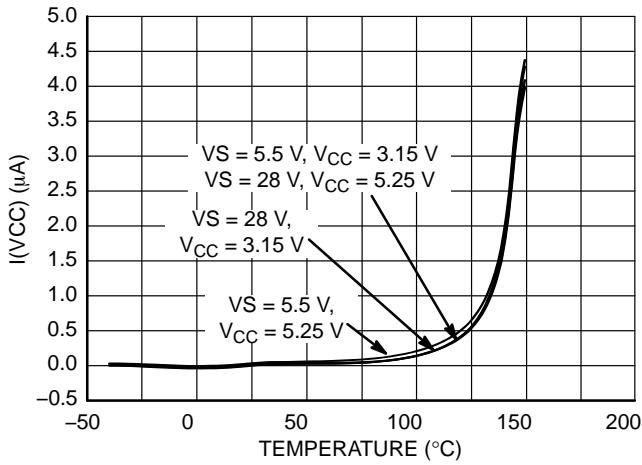

Figure 17. $I(V_{CC})$ vs. Temperature
- Refer to Figure 17 for the VCC standby current behavior.